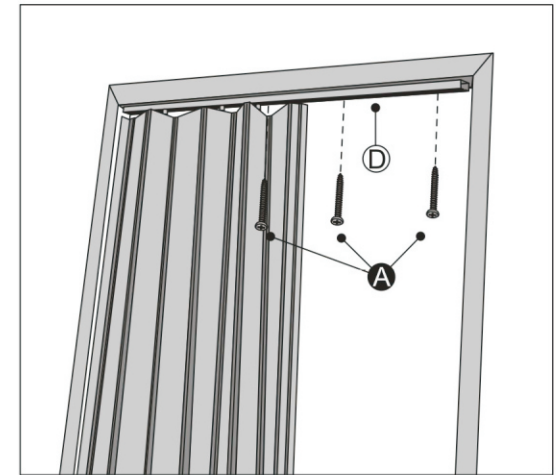

fig. 11
4. Swing the Top Track **D** back so it is parallel with the door frame. Use Screws **B** to fix the Top Track. See fig. 11.